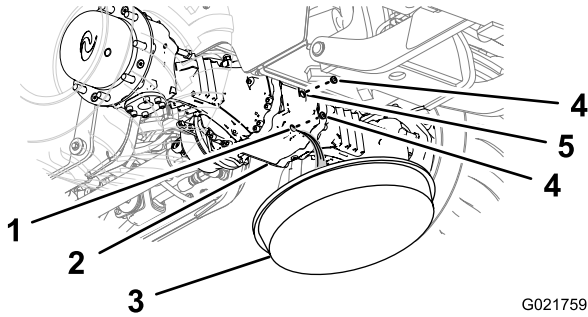
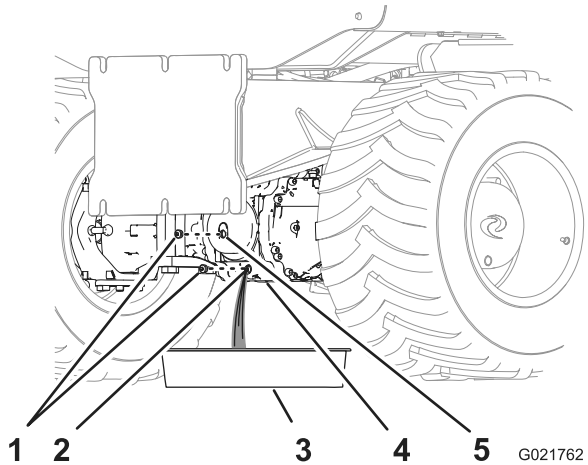

Figure 69
Figure 70
1. Place a drain pan under the pinion housing of the axle (Figure 69 and Figure 70).
2. Remove the plugs from the sight port and the drain port of the pinion housing (Figure 69 and Figure 70).